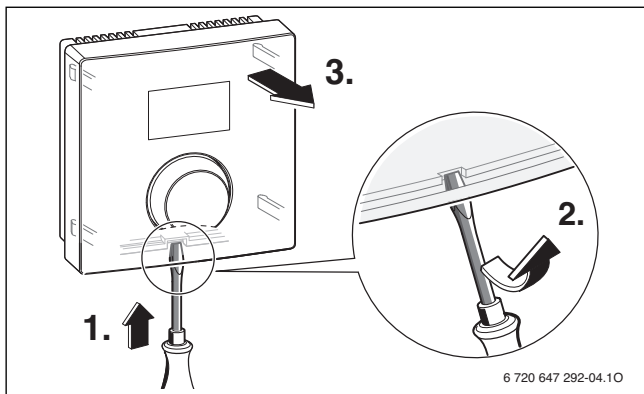

Fig. 5 Removing CRC100 from wall base
- Install CRC100 (→ Figures 5 and 6).